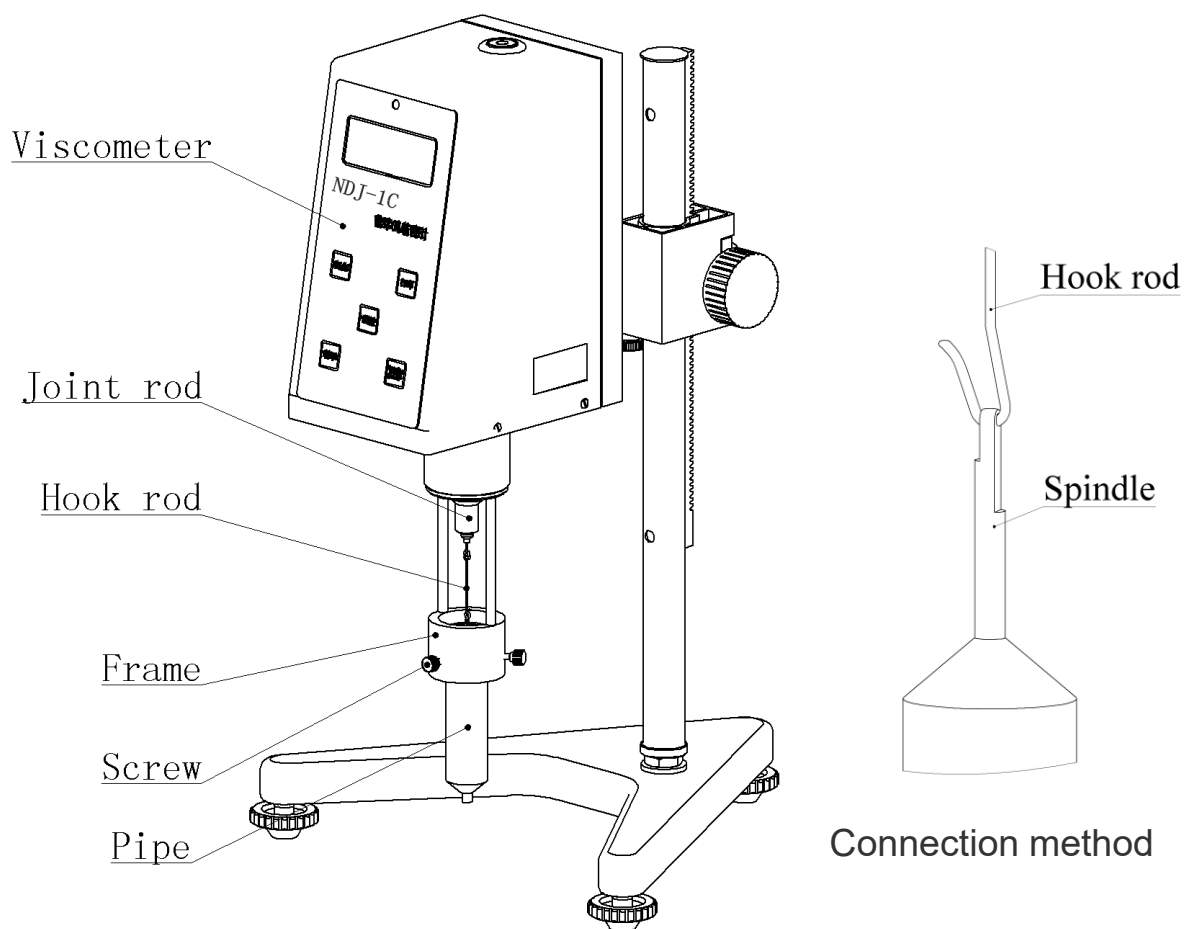

Figure 2
- 4.5 This system has two kinds of sample measurement, a method of assembly as shown in Figure 2, mainly used for measuring the liquid material at room temperature (Convenient with the use of other low constant temperature equipment); Another method as shown in Figure 4, is mainly used for measuring be solid at room temperature, high temperature heated into liquid substances.
- 4.5.1 According to figure 2 assembly.
- 4.5.1.2 The spindle is Installed in the hook (short), in order to minimize the measurement error, assembly hook and the spindle must be shown in Figure 2 (right).
- 4.5.2.3 The spindle is Installed in the hook (long), in order to minimize the measurement error, assembly hook and the spindle must be shown in Figure 2 (right).